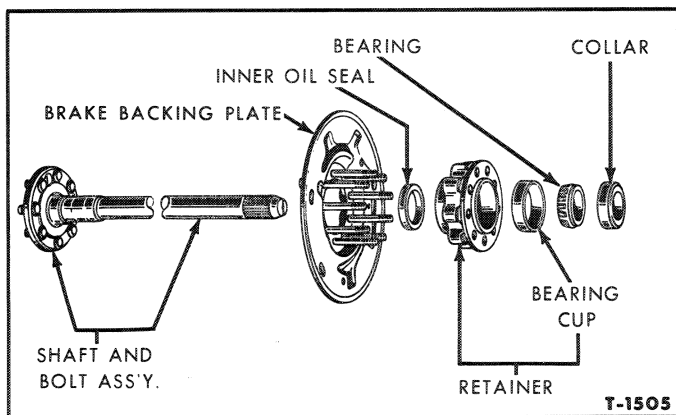

Figure 5—Axle Shaft Assembly
8. Remove the puller from the retainer and clamp the retainer in a soft jawed vise. Pull the axle shaft oil seal and bearing cup from the retainer with a Slide Hammer and Puller 943. The complete axle shaft assembly is shown in Figure 5.